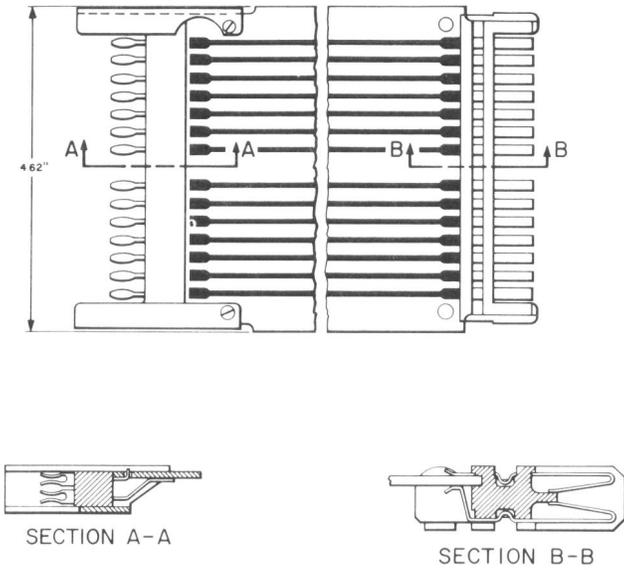

Fig. 5—727B Extender Tool
2.14 727B: The 727B extender tool (Fig. 5) permits circuit packs in the No. 101 ESS to be extended for testing purposes. This extender has 38 terminals.